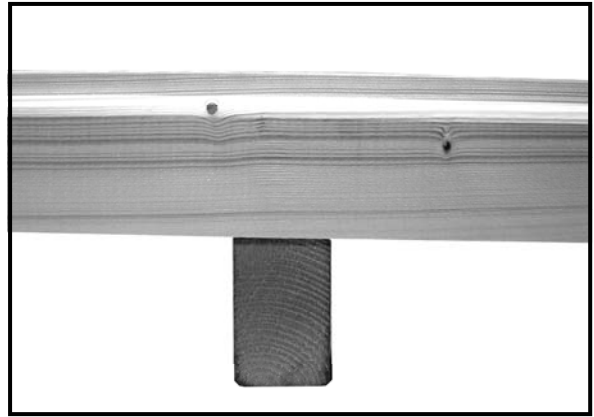

Fig D4
- The bearers stand with the narrowest edge to the floor (fig D4) and their ends 5mm back from the A1 logs face (Level with the chamfer).